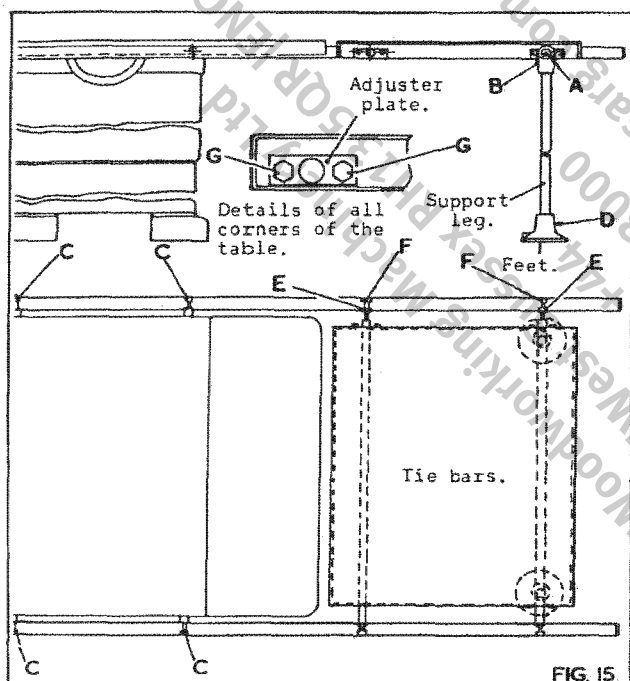

FIG. 15.
A sheet metal extension table can be supplied to fit to the right of the saw as shown in Fig. 15. This table increases the capacity to the right of the saw to 50" (1270mm) between the saw and rip fence.
1. Remove parts from parcel and remove protective coating by applying a cloth soaked in paraffin, turpentine or other solvent and assemble as shown in Fig. 15.
3. Centralise the table with the main table of the machine. Loosen socket head grubscrew "A" in Fig. 15 and keeping the filboes "B" pressed against the inside of the extension table. The whole assembly can slide along the tie bars. When central with the main table re-tighten socket head grubscrew "A".